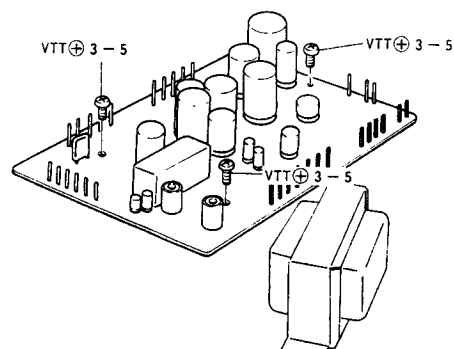

Fig. 8
- 1) Remove 3 screws. (Refer to Fig. 8)